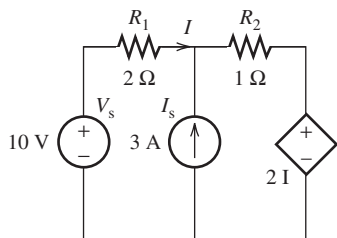

FIGURE P3.69 Circuit for Problem 3.69.
3.69 (A)* Find the current I in Figure P3.69 using the superposition principle.